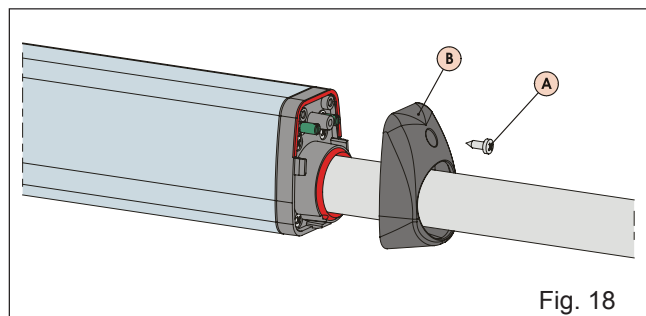

Fig. 18
1. Unscrew the upper fastening screw, Fig.18 Ref.A, and remove the cap, Fig.18 Ref.B.
5. Reposition the cap (Fig. 18 Ref. B) and tighten the fastening screw (Fig. 18 Ref. A).